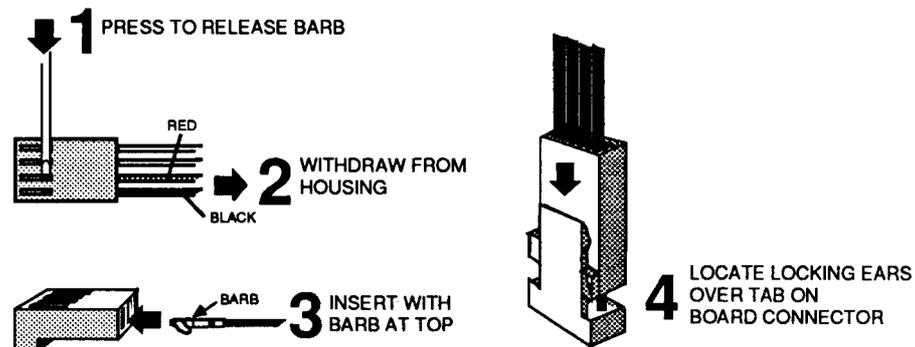

Fig.6 — Removing/inserting LED wires in LED/speaker connector
- Using a small electrical screwdriver or similar, depress the barbs on the LED wire contacts in the LED/speaker connector (red and black wires) and withdraw the contacts from the connector, noting the polarity of the LED wires (see Fig. 6, steps 1 and 2). Place the old front sub-moulding to one side.
- Insert the LED wire contacts into the LED/speaker connector so that the barbs on the contacts engage in the slots in the connector housing (see Fig. 6, step 3). Observe correct polarity - make sure that the red and black wires are the correct way round, as shown in Fig. 6, step 2.
- Plug the LED/speaker connector to PL9 on the main board, ensuring that the locking ears on the connector locate either side of the locking tab on the board-mounted connector (see Fig. 6, step 4).